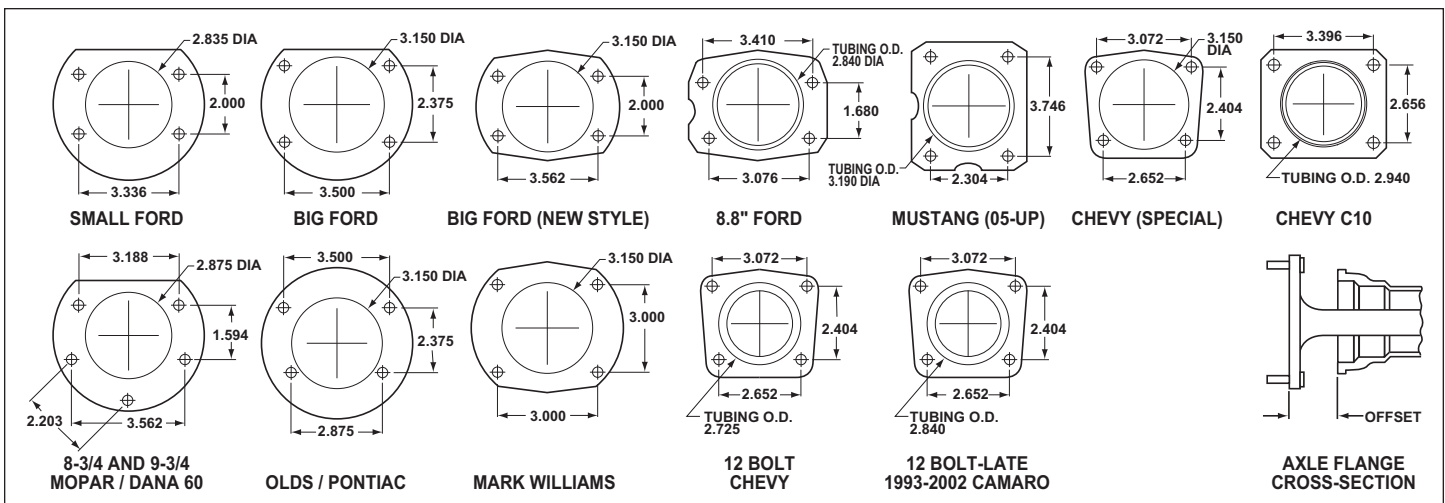

Figure 5. Rear Housing Flange Chart and Axle Flange / Offset Cross-Section
- Make sure this is the correct kit to fit the axle housing flange, not necessarily the rear end make. Many times after market manufacturers put a different make of axle housing flange on the stock rear end housing (see Figure 5, next page). Example; Big Ford rear ends with Olds-Pontiac flanges, therefore, an Olds-Pontiac rear disc brake kit would be the correct kit to order.
- Dimension from wheel side of axle flange to wheel side of axle housing flange (see Figure 5, lower right hand corner). This dimension is critical to ensure proper alignment of the rotor to the caliper, and should match offset given in the kit description.